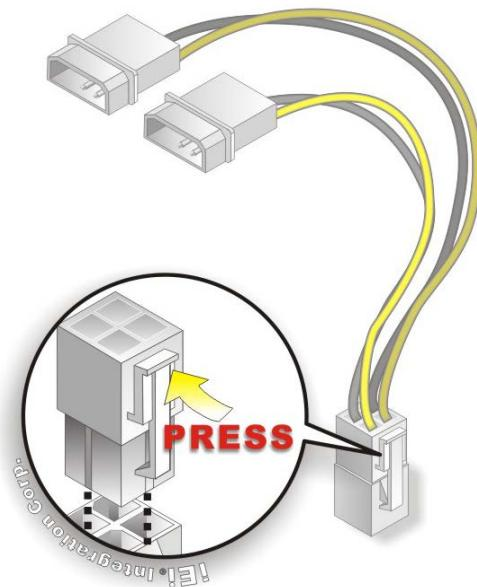

Figure 4-13: Power Cable to Motherboard Connection
Step 2: Connect the power cable to the motherboard. Connect the 4-pin (2x2) Molex type power cable connector to the power connector on the motherboard. See Figure 4-13.